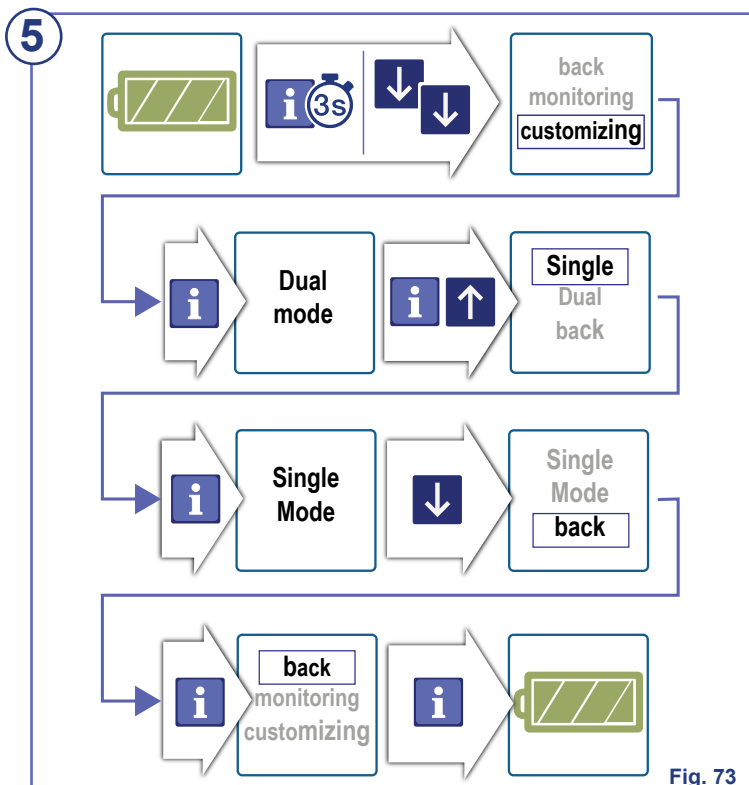

Fig. 73
- 5) Follow the steps shown in Fig. 73 to set the Maxi Sky 2 Plus in Single Mode.